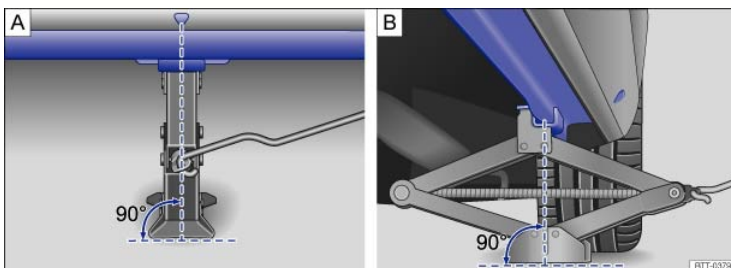

Fig. 234 Jack in position at the left rear lift point.
- Position the jack only at the described vehicle lift points. Before you raise your vehicle, always make sure the jack claw properly grips the vertical rib under the sill so that the jack does not slip off when you are raising the vehicle ⇒ Fig. 234.